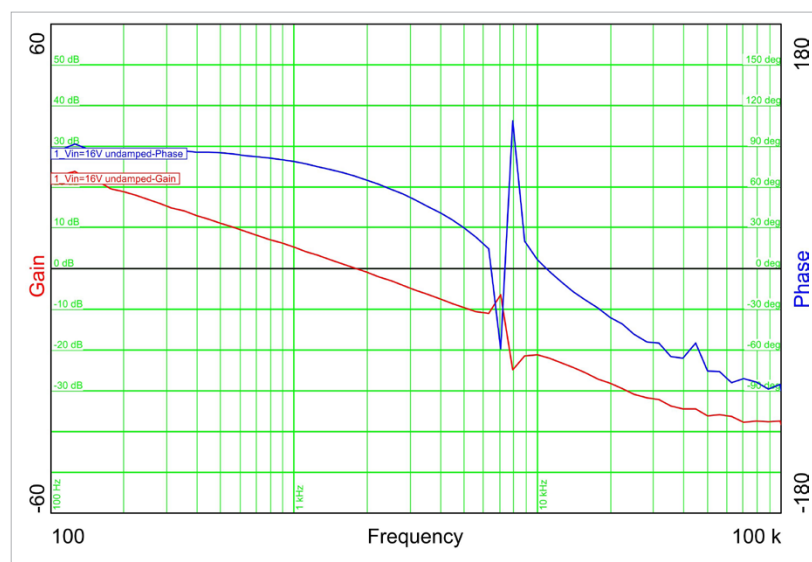

Figure 4: Bode plot of the undamped system
Figure 4: The Honeywell SS360ST, SS360NT, and SS460S bipolar latching Hall-effect sensors offer reliable switching points over its operating temperature range of  $-40$  to  $+150$  °C.
Miscommutation also results in lower effective torque constant (Kt) and higher torque ripple, causing additional electrical noise, which affects efficiency and system performance. Thus, a faster response time to a change in the magnetic field provides higher efficiency in commutating a BLDC (figure 4).
**Figure 4** shows the measured open loop of the undamped system. The gain increases at around 6 kHz, which causes problems for the stability of the system. The switch node shows jitter.